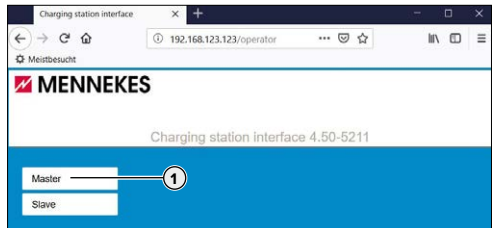

Bild 21: Valsida: Master – Slave
- "Bild 21: Valsida: Master – Slave"